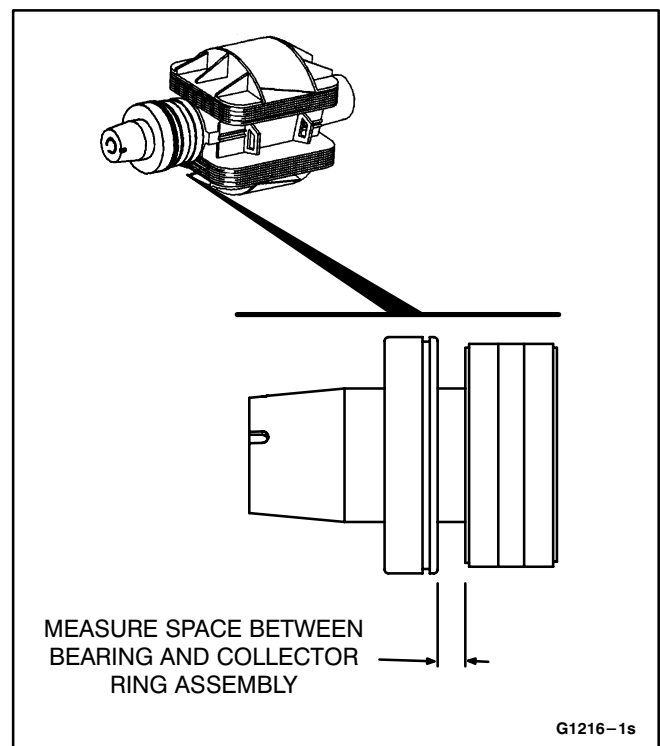

FIGURE 9-12. ROTOR BEARING SPACING
1. Measure and record the distance between the bearing and the collector ring assembly. See Figure 9-12.